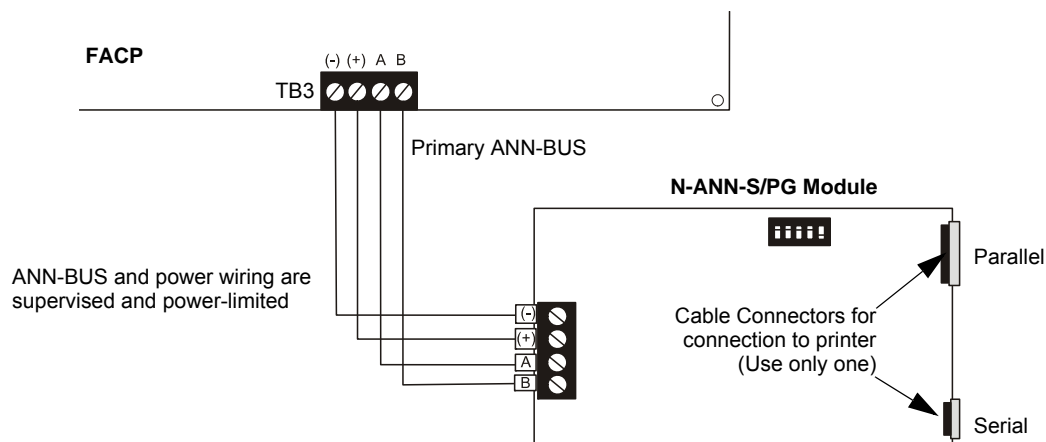

Figure 2.19 N-ANN-S/PG Connection to FACP
2. Connect the N-ANN-S/PG to the FACP as illustrated in Figure 2.19
5. Connect a printer to the N-ANN-S/PG Parallel or Serial connector (refer to Figure 2.19 on page 40)